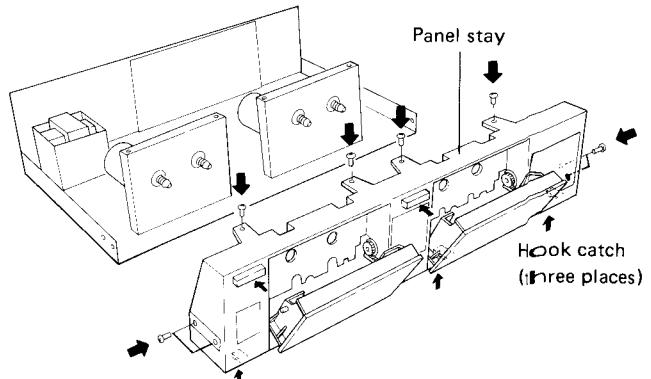

Fig. 3-5
5. Remove the panel stay. (Refer to Fig. 3-5)